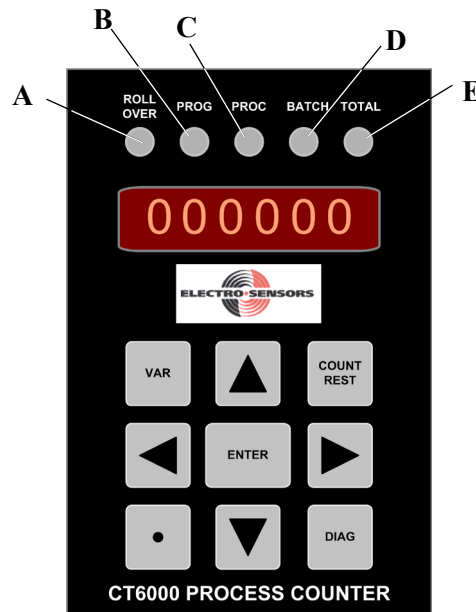

Figure 9: CT6000 Front Panel Description
The CT6000 face contains five (5) status LEDs, a 6-digit display, and a keypad containing nine (9) keys. See Figures 9 and 9a. The letters in Figures 9 and 9a represent each part on the front panel of the CT6000, shown in Table 3. The Parts and Functions table that follows describes the function of each part.